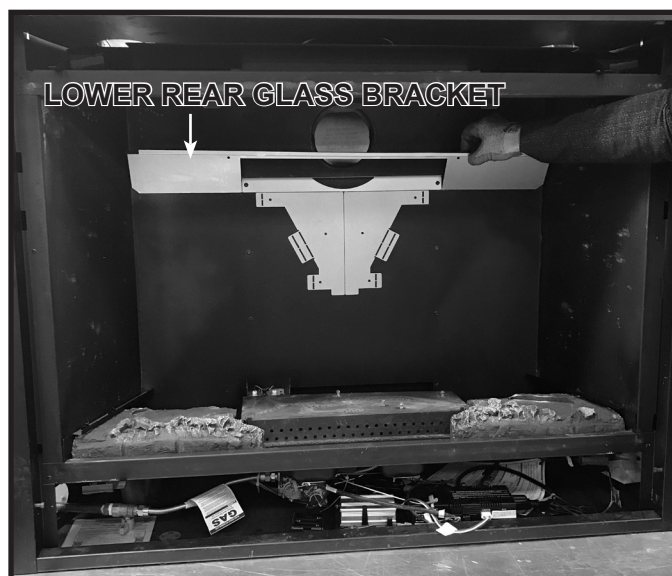
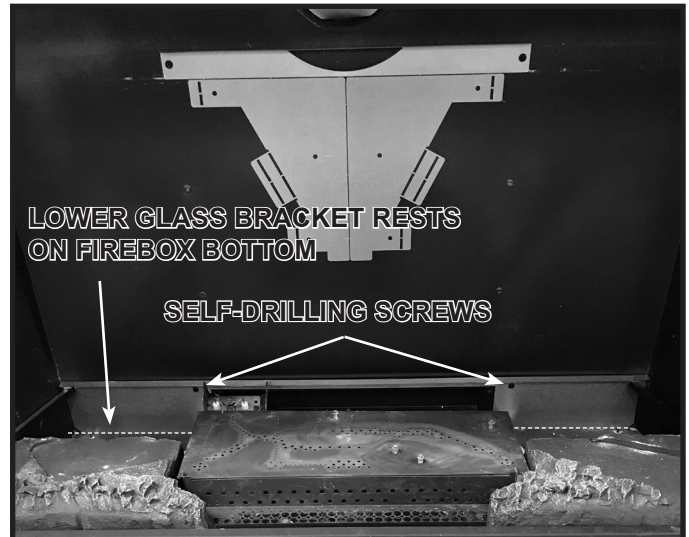
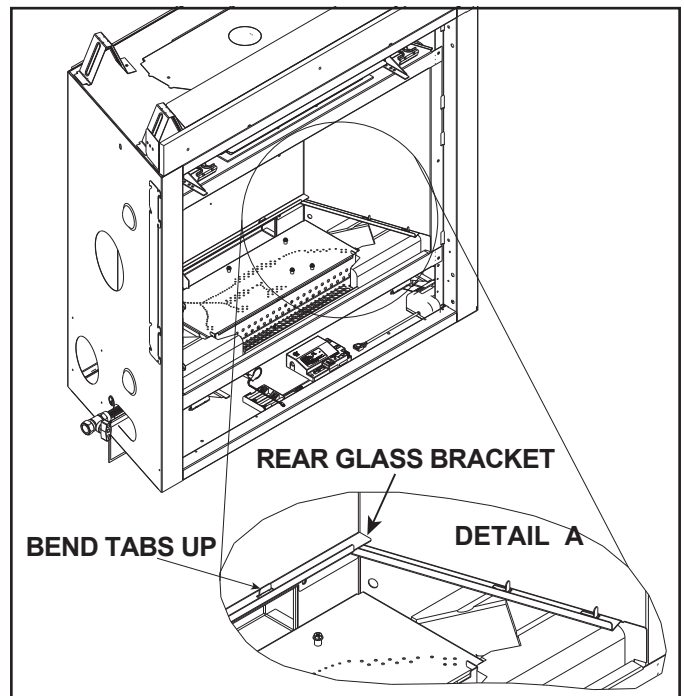

Figure 11.8 Removing Lower Rear Glass Bracket
Figure 11.9 Rear Lower Glass Bracket Installed
Figure 11.10 Bend Tabs on Lower Side and Rear Glass Brackets
2. Remove the rear lower glass bracket from the back of the firebox by pulling forward on the top edge to break it free. See Figure 11.8. Bend the hand bend features “up” to about 45 degrees and install the rear lower glass bracket using the self drilling screws from the manual bag. The bracket must rest on the bottom of the firebox. See Figure 11.9 and Figure 11.10.
Note: The lower glass bracket spans the entire width of the back wall of the firebox and rests above the side lower glass brackets. See Figure 11.10, Detail A.